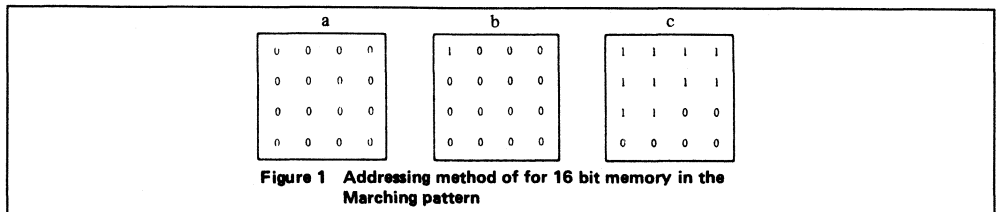

Figure 1 Addressing Method of 16-Bit Memory in the Marching Pattern
1. Clear all bits (see Figure 1 a).
3. Write 1 on the 0th address (see Figure 1 b).
7. Write 1 on the nth address (see Figure 1 c).